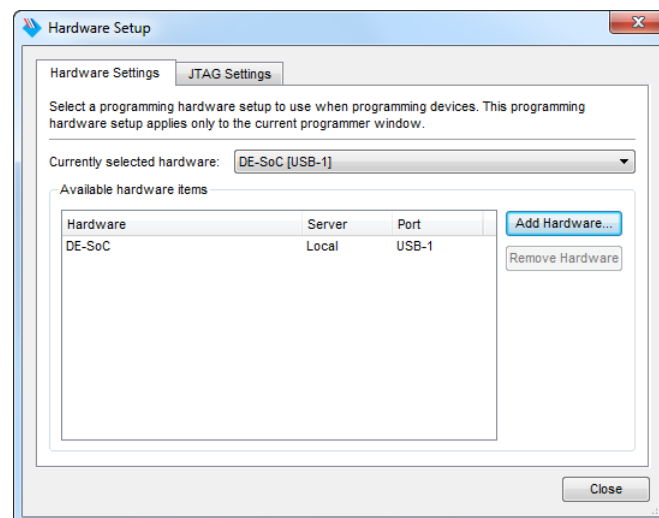

Figure 11. Setting up hardware.
- For SignalTap II to work, we need to properly set up the hardware. First, make sure the DE-series board is plugged in and turned on. In the Hardware section of the SignalTap II window, located in the top right corner, click **Setup...**, bringing up the window in Figure 11. Double click DE-SoC in the Available Hardware Items menu, then click **Close**. If you are using a DE0-CV, DE0-Nano, or the DE2-115, you will select USB-Blaster from the Available Hardware Items menu.